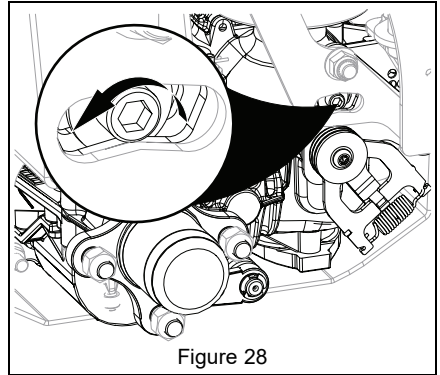

Figure 28
1. Loosen the return to neutral screw on transaxle. See Figure 28.